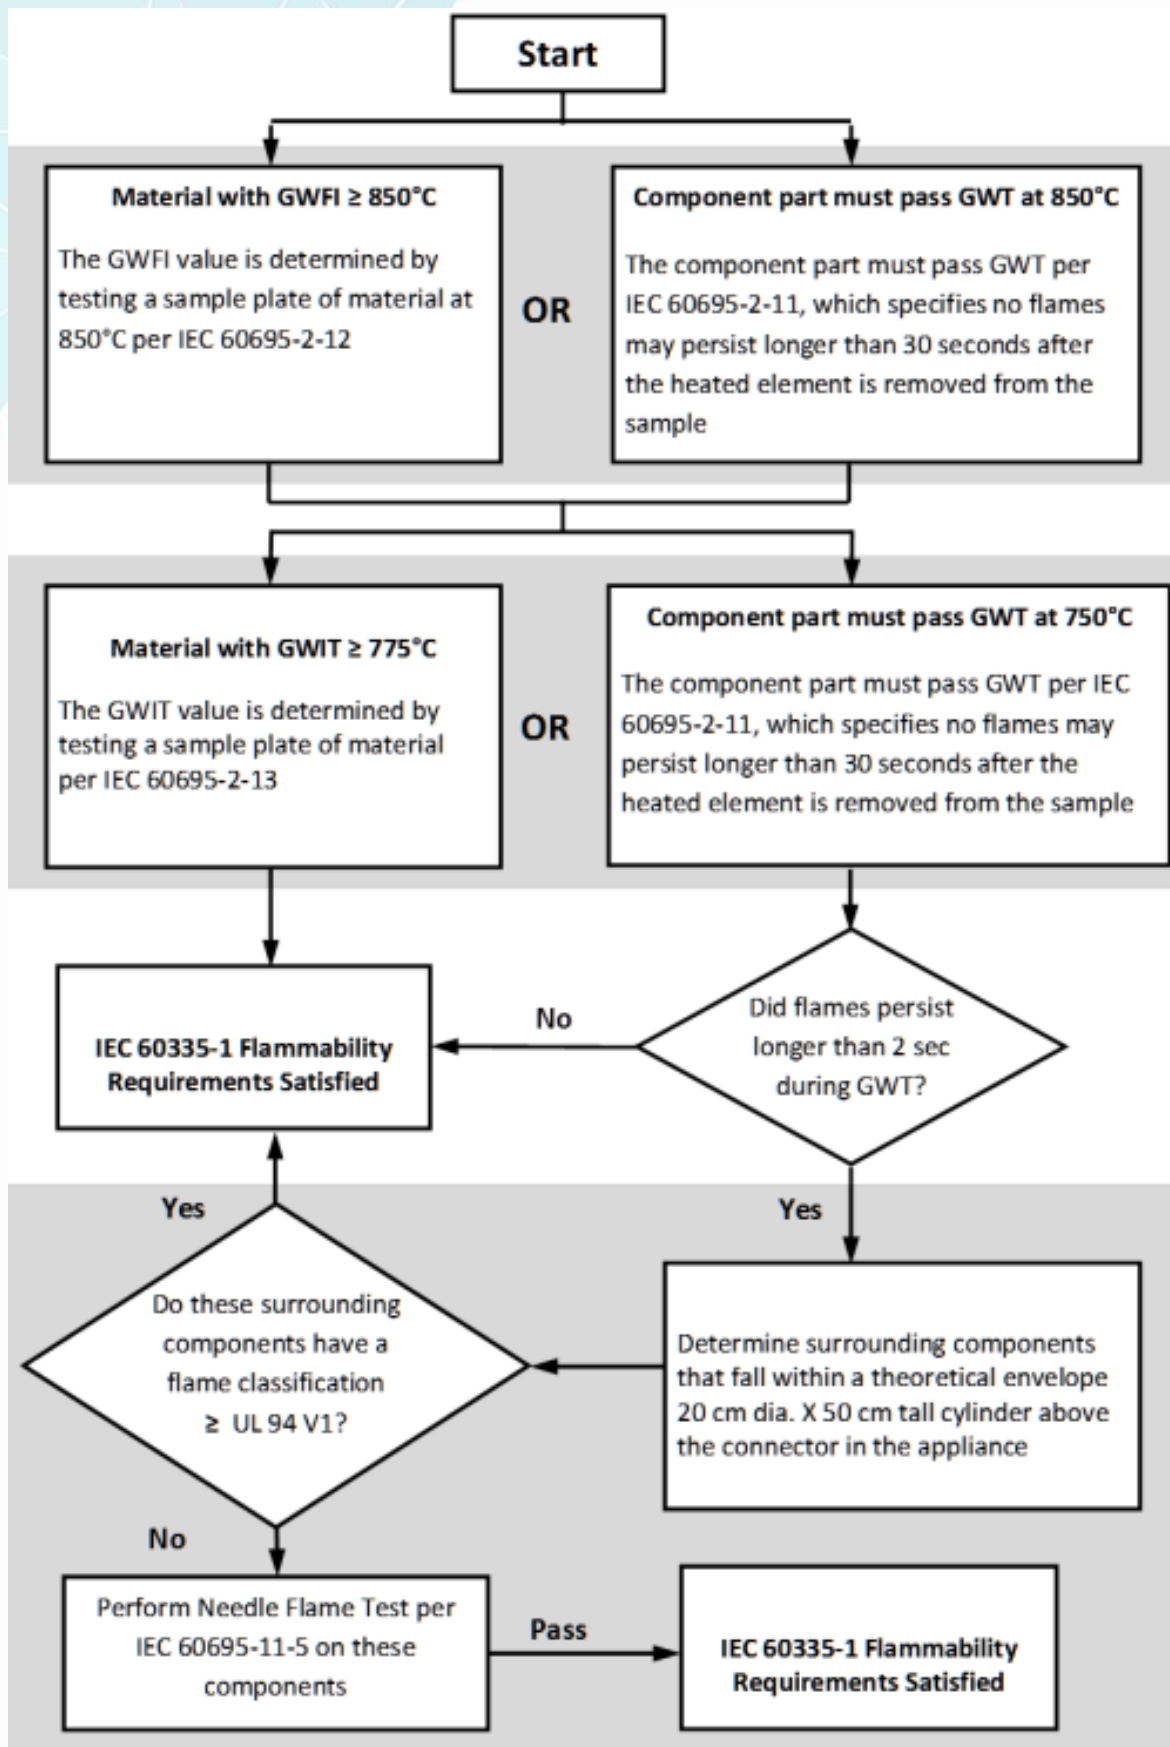

FIGURE 4-4: FLOW DIAGRAM OF GLOW WIRE / FLAMMABILITY TEST
- ✓ The third level of evaluation (performed only if the connector exhibits a flame for longer than 2 seconds) is not performed directly on the connector, but instead is performed on any components within the appliance falling within a theoretical envelope above the connector. Components within the envelope made from a material that has a minimum flammability designation as UL 94 VI are not subject to further evaluation. However, components within the envelope that have less than UL 94 VI are subject to a needle flame test. Refer to the flow diagram located in the figure 4.4 for an illustration of the testing required for materials supporting connections carrying current greater than 0.2 A in unattended appliances. Connectors used in appliances that are categorized as unattended with a current less than 0.2A or categorized as attended appliances are subjected to less severe testing methods. It is important for the appliance manufacturer to understand the appropriate categorization of their finished product, to apply the correct level of testing per IEC 60335-1 to the components.